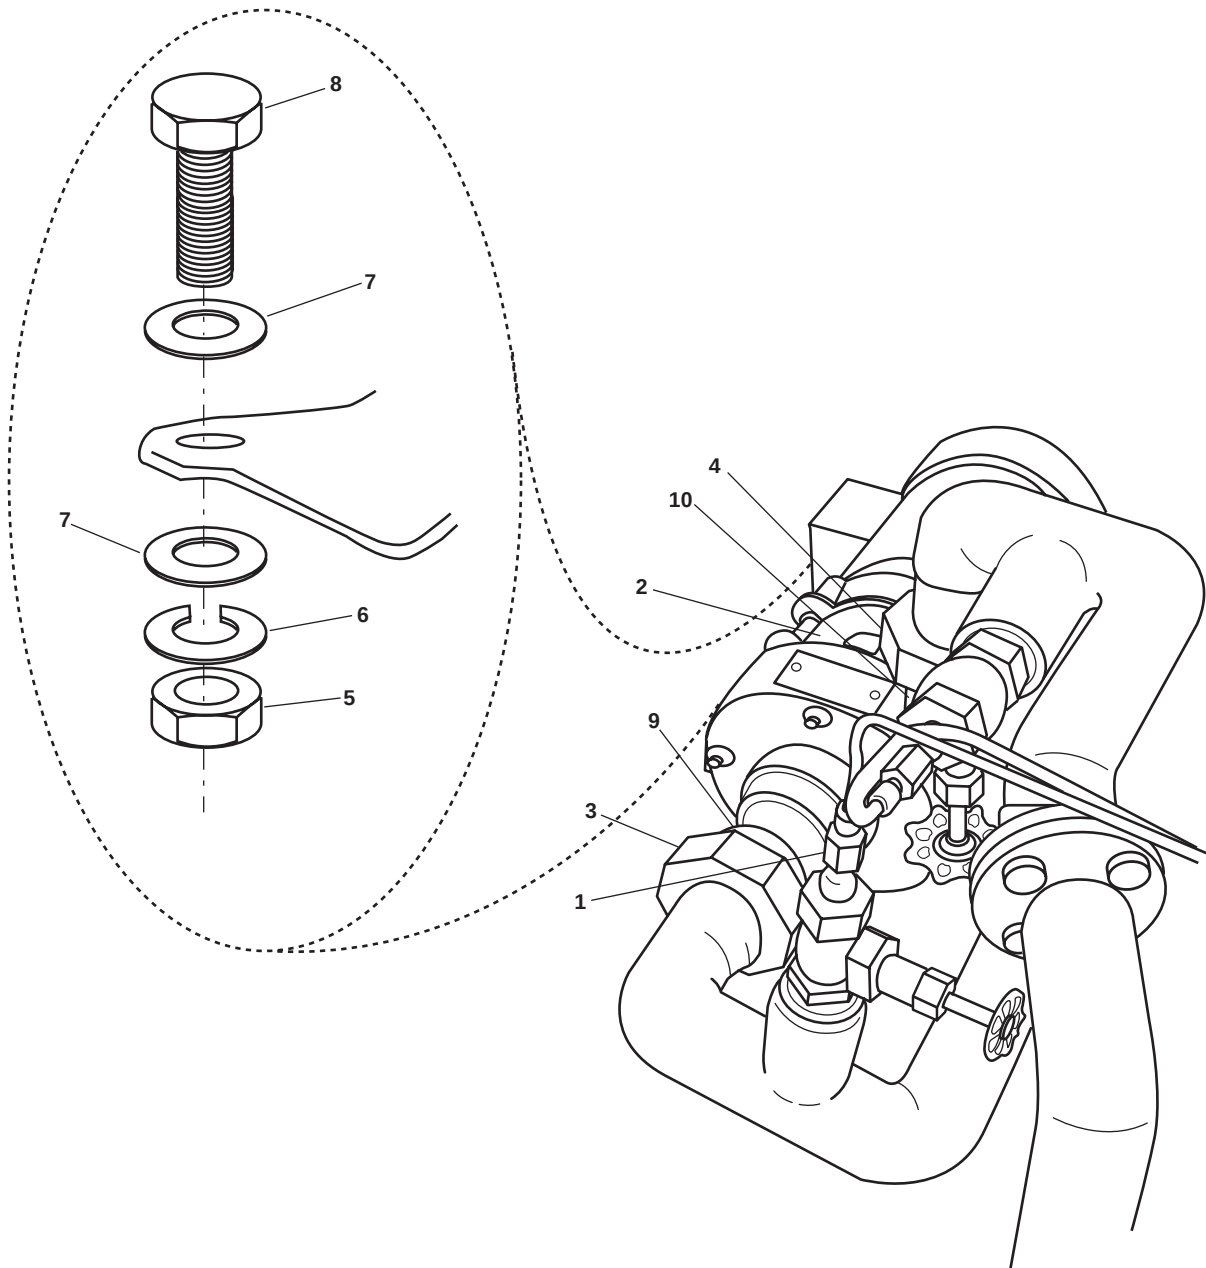

Figure 2. Hot Potable Water Recirculation Pump
7. Loosen the pressure gauge piping (figure 2, item 1) to relieve any pressure that may be in the hot potable water recirculation pump (figure 2, item 2) piping.
8. Disconnect the potable water piping at the hot potable water recirculation pump (figure 2, item 2) inlet and outlet unions (figure 2, item 3 and 4).
9. Remove the four nuts (figure 2, item 5), four lockwashers (figure 2, item 6), eight flat washers (figure 2, item 7), and four bolts (figure 2, item 8) that secure the hot potable water recirculation pump (figure 2, item 2) to the foundation. Discard the lockwashers.
10. Remove the hot potable water recirculation pump (figure 2, item 2) from the foundation.
11. Remove the inlet fitting (figure 2, item 9) and the outlet fitting (figure 2, item 10) from the hot potable water recirculation pump (figure 2, item 2).
1. Apply antiseizing tape on the male threads of the inlet fitting (figure 2, item 9) and outlet fitting (figure 2, item 10) and install the fittings on the hot potable water recirculation pump (figure 2, item 2).
2. Install the hot potable water recirculation pump (figure 2, item 2) on its foundation and secure it with the four nuts (figure 2, item 5), four new lockwashers (figure 2, item 6), eight flat washers (figure 2, item 7), and four bolts (figure 2, item 8).
3. Connect and tighten the inlet and outlet unions (figure 2, item 3 and 4) to the hot potable water recirculation pump (figure 2, item 2).
4. Install the discharge pressure gauge piping (figure 2, item 1) to hot potable water recirculation pump (figure 2, item 2) and tighten the piping connection.